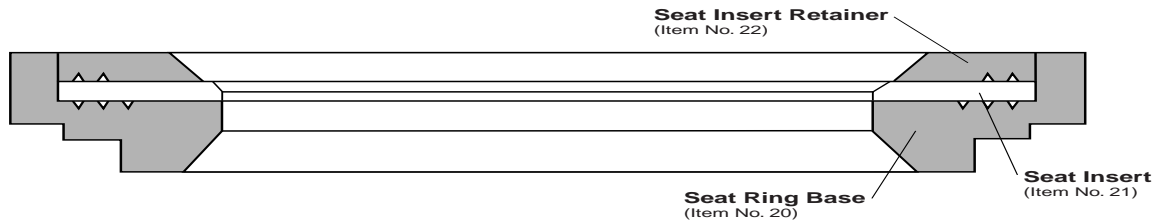

Figure 1: Soft Seat Assembly
Valtek control valves seal “bubble-tight” with the use of a soft seat ring. The design consists of a seat ring base, an elastomer insert and a seat insert retainer (refer to Figure 1 for standard soft seat construction). The soft seat assembly is completely interchangeable with standard seat rings in any Valtek control valve body without further modifications. Standard insert materials include TFE Teflon, FEP Teflon, polyurethane, and KEL-F.
To disassemble valves with soft seats, refer to Figures 1 and 2 and proceed as follows:
To reassemble valves with soft seats, refer to Figures 1 and 2 and proceed as follows:
1. Using a new elastomeric insert, assemble the three soft seat components as illustrated in Figure 1.